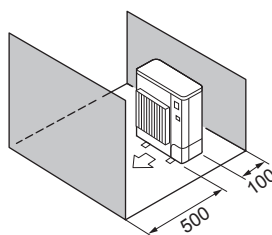

Fig. 3-10
- ⑤ Obstacles at front and rear only (Fig. 3-10)